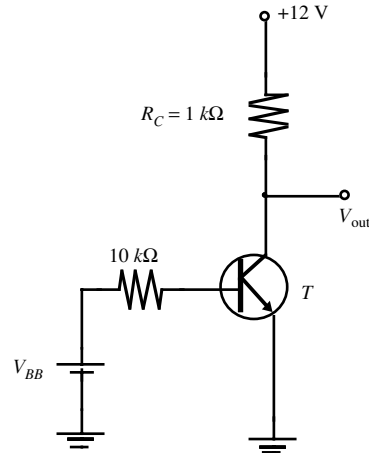

Figure P10.14
- 10.14** For the circuit shown in Figure P10.14, determine the base voltage V_{BB} required to saturate the transistor. Assume that $V_{CE\text{sat}} = 0.1$ V, $V_{BE\text{sat}} = 0.6$ V, and $\beta = 50$.